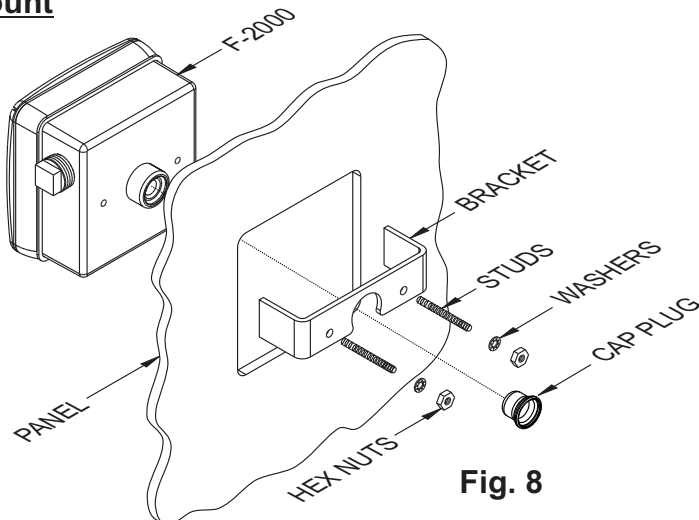

Fig. 8
- Display can be mounted on a pipe or wall with optional mounting bracket kit. See figure 8 - 11.